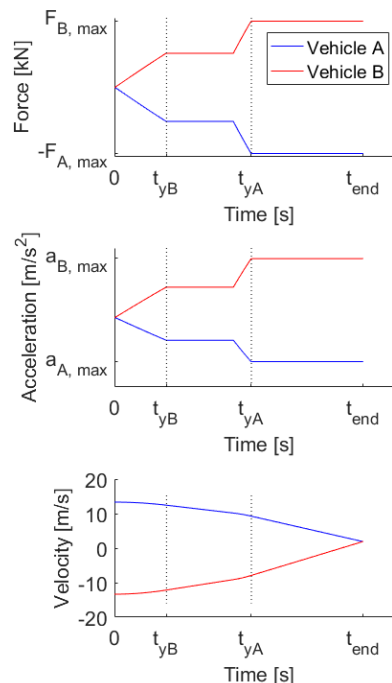

Figure 5. Force, acceleration, and velocity time history of vehicle-to-vehicle collision.
- a) Solve the equations of motions for vehicle A and B in the impact (see Appendix B). Plot the force levels, acceleration, and velocity time histories, as shown in Figure 5. Include this graph in your report. For solving this task, complete the function *solveEquationsOfMotion.m* (5 points)
- c) Solve the equations of motions for vehicle A and B in the impact. Plot the force levels, acceleration, and velocity time histories, as shown in Figure 5. Include this graph in your report. For solving this task, use the same function *solveEquationsOfMotion.m* that you used for Task 3a. (1 point)